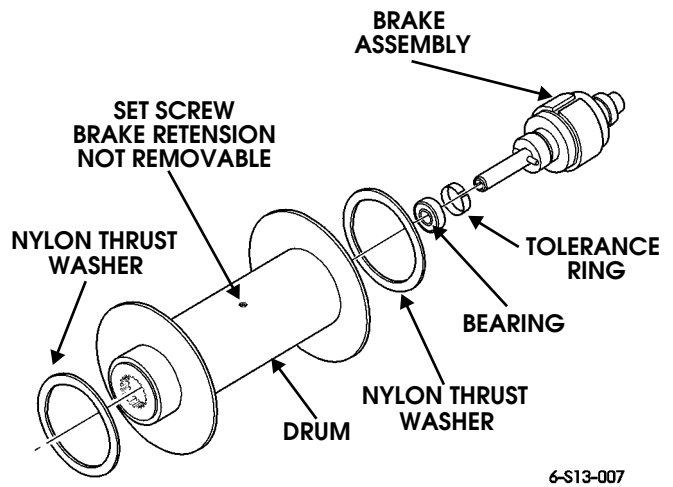

Figure 13-19: Thrust Washers and Brakes
16. Apply grease to drum bushings, seals, and output spline (Figure 13-19).